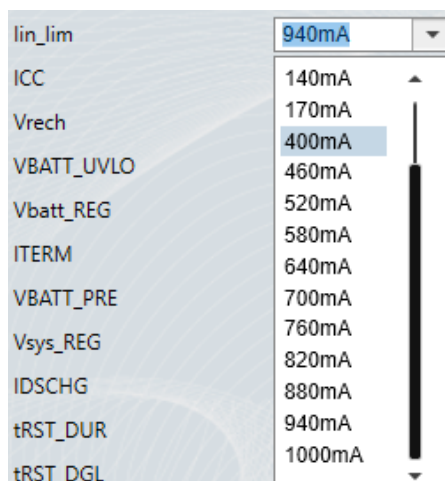

Figure 7: Input Current Limit Setting
3. Figure 7 shows the input current limit setting. Set the input current limit to 940mA (the range is 50mA to 1000mA).